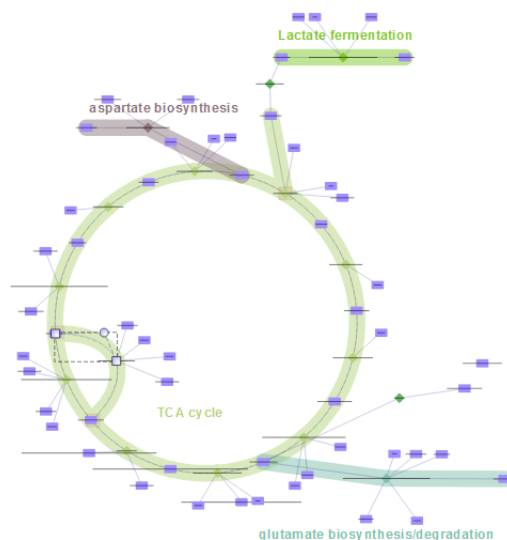

Figure 98 Network diagram after repositioning nodes and aligning to patterns using the Pattern Editor
- f Click the **Zoom Diagram**  button on the toolbar so the entire pathway is visible in the Drawing Area (Figure 98 on page 95).